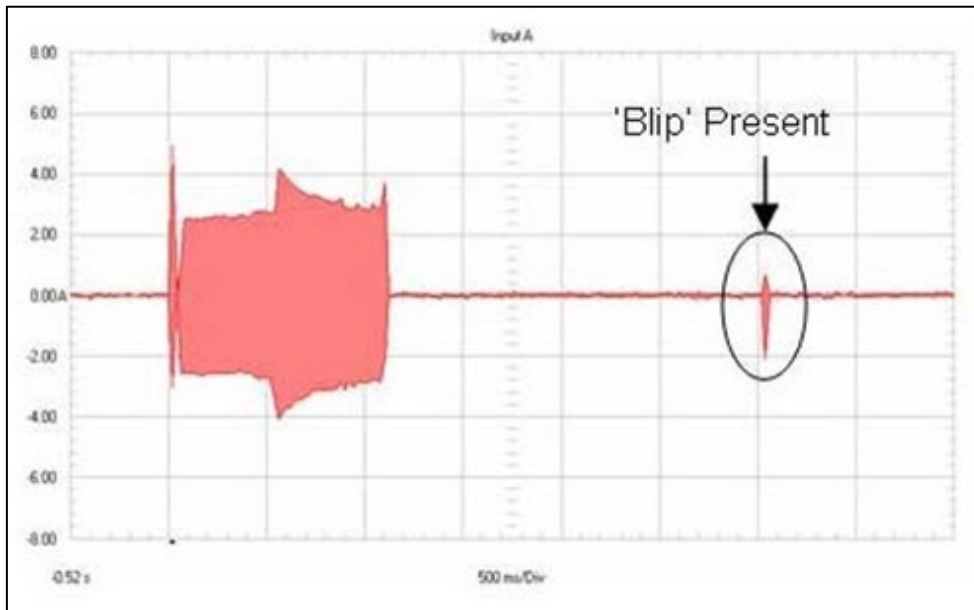

**Figure 1 – Trace 1: Current probe on L2, running current above 2A
a) If this is the case (see Appendix A, Figure 1) then the dummy load resistors are not required.